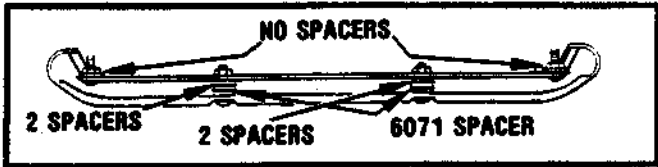

FIGURE 22
3. To obtain smoothest cutting in higher cutting height settings, the runners should be adjusted as shown in Figure 22.